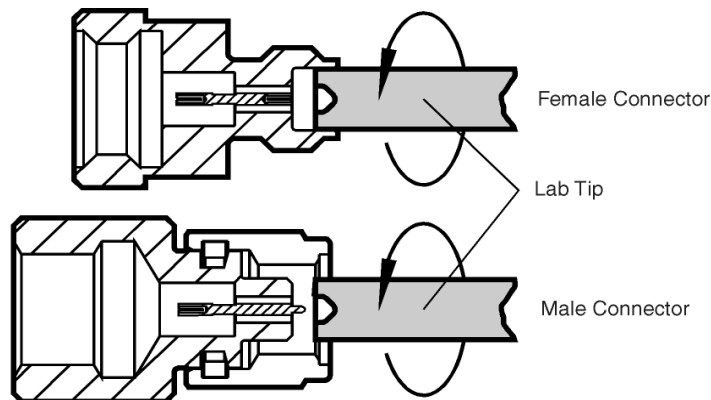

Figure 4-7 Cleaning Illustration
4. *Gently* wipe connecting surfaces with the end of the cleaning swab (refer to Figure 4-7).